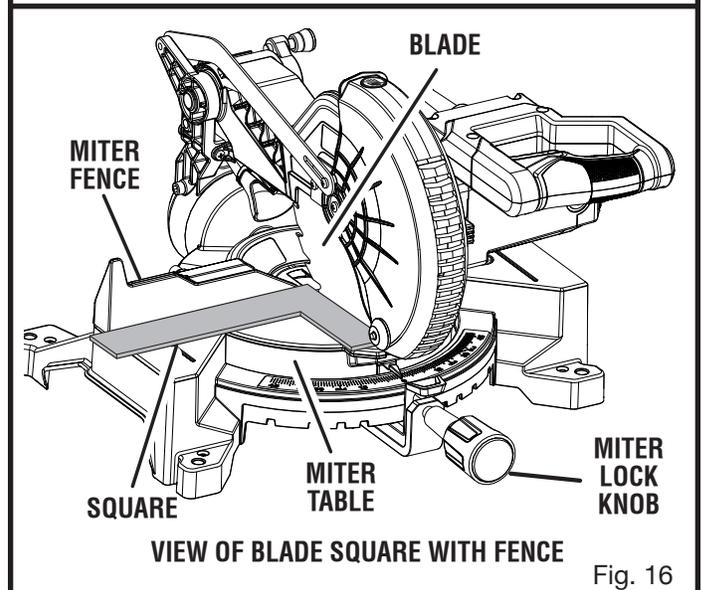

Fig. 16
See Figures 16 - 21.
- The edge of the square and the saw blade should be parallel as shown in figure 16.